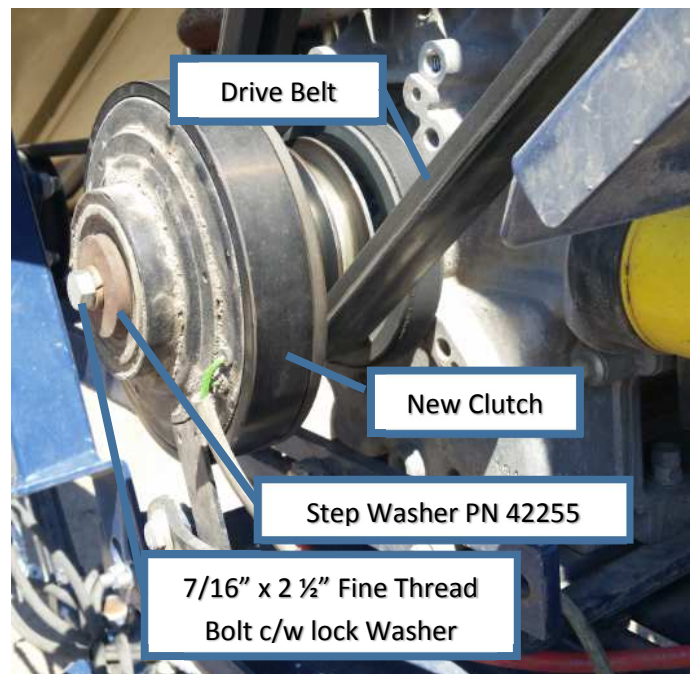

Figure 4
- Place Stepped Washer PN 13000042255 and 7/16" x 2 1/2" Fine Thread Bolt c/w Lock Washer 3 to secure the Clutch to the Engine Shaft as shown in Figure 4